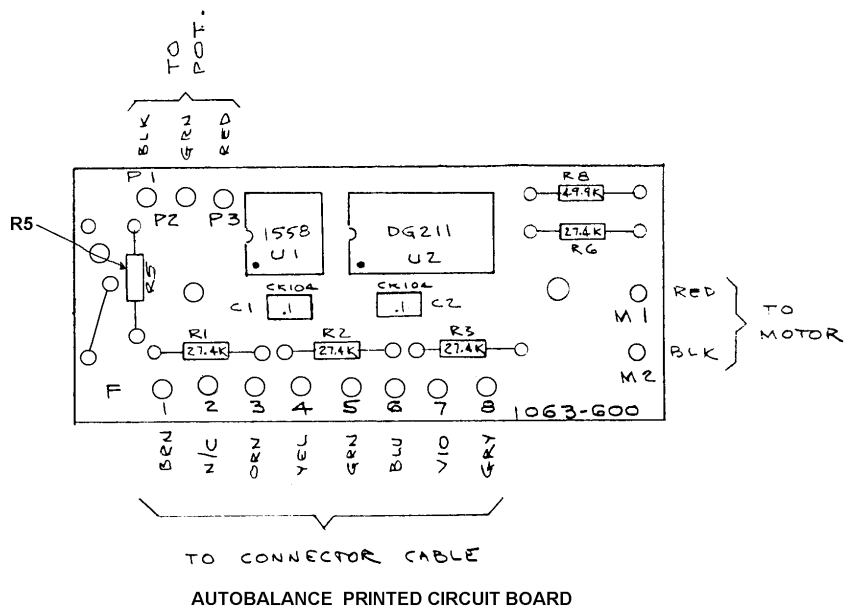

FIGURE 1
- A. On the next trip to each site, inspect the resistor R5 for its value. Reference the autobalance printed circuit Figure 1 for location of R5. Use the ASOS Site Technical
Manual (STM), Table 5.5.13 for the autobalance module removal and Figure 1 for location of R5.